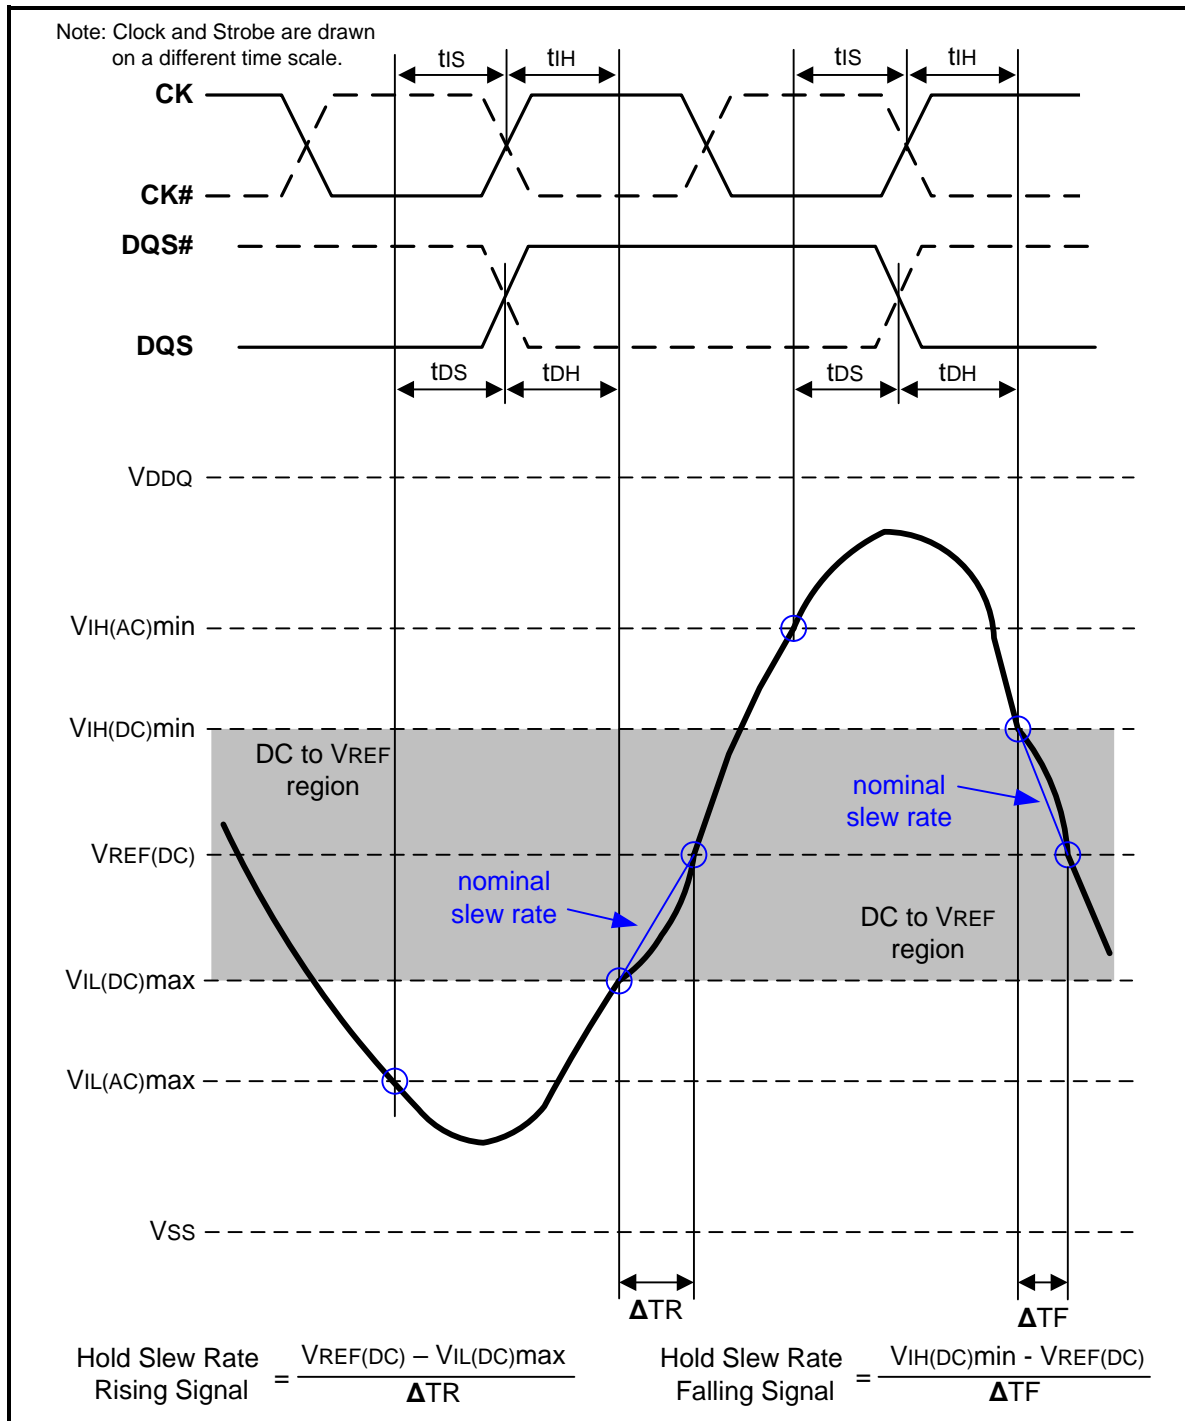
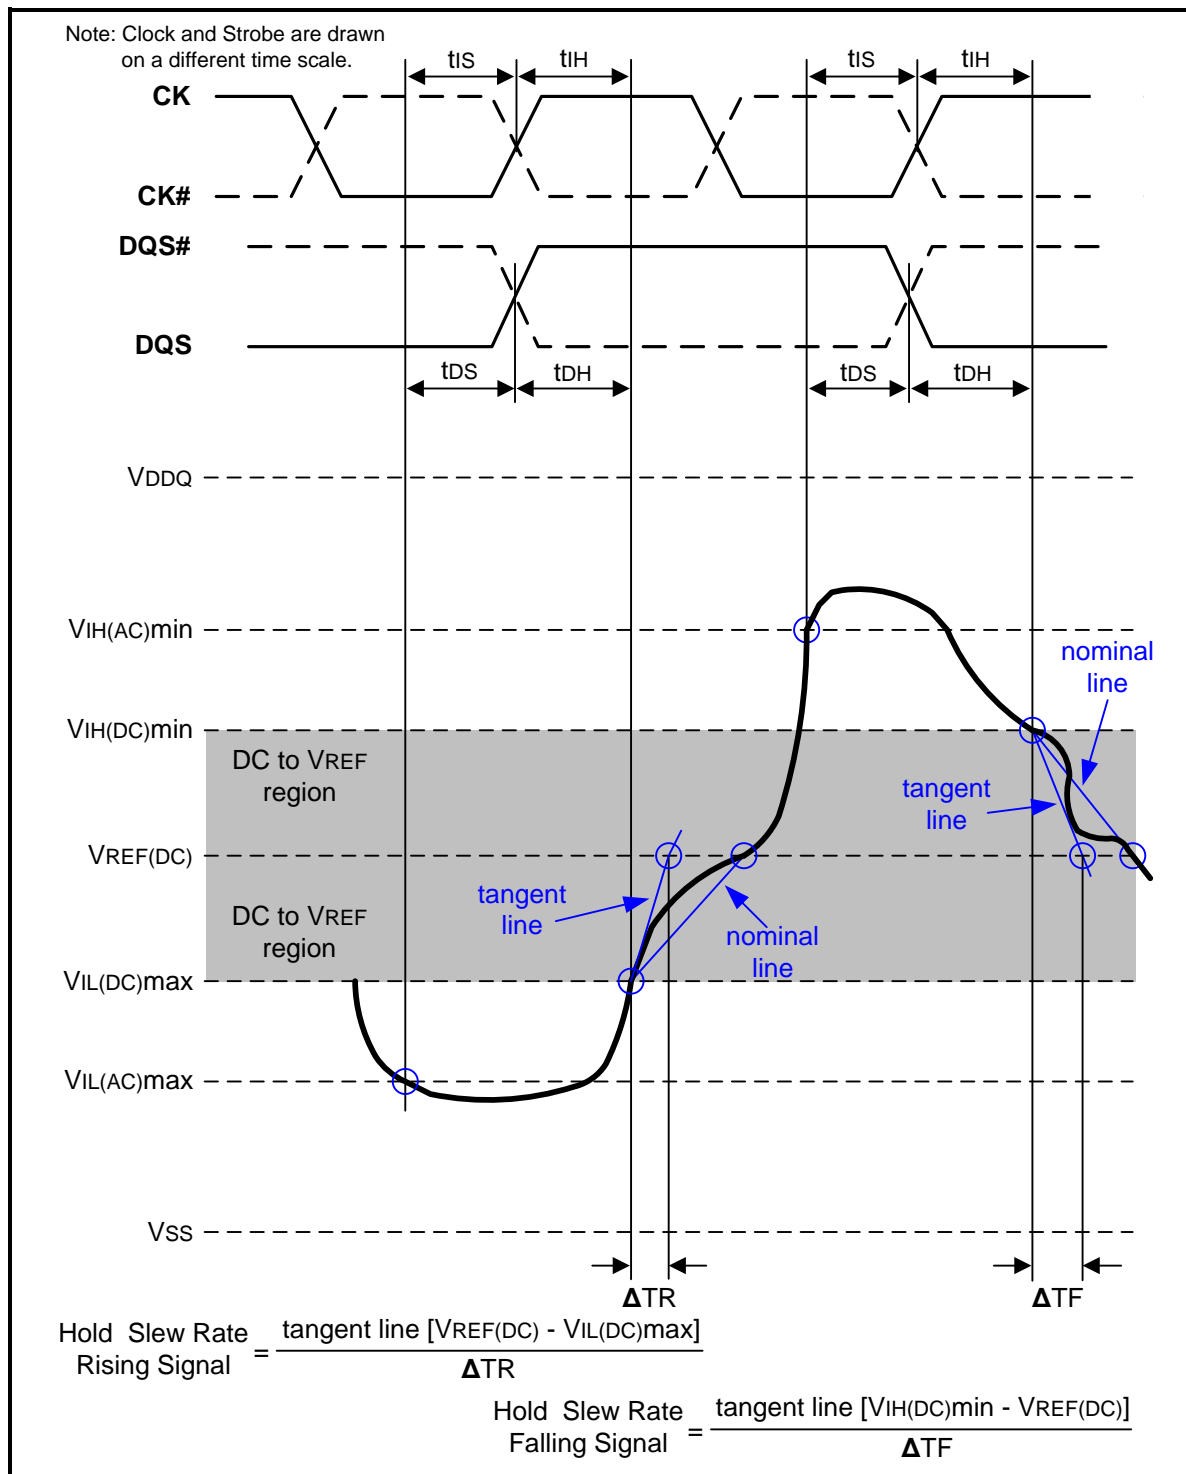

Figure 108 – Illustration of nominal slew rate for hold time t_{DH} (for DQ with respect to strobe) and t_{IH} (for ADD/CMD with respect to clock)
Figure 110 – Illustration of tangent line for hold time tDH (for DQ with respect to strobe) and tIH (for ADD/CMD with respect to clock)
Hold (tDH) nominal slew rate for a rising signal is defined as the slew rate between the last crossing of VIL(DC)max and the first crossing of VREF(DC). Hold (tDH) nominal slew rate for a falling signal is defined as the slew rate between the last crossing of VIH(DC)min and the first crossing of VREF(DC) (see Figure 108). If the actual signal is always later than the nominal slew rate line between shaded 'DC level to VREF(DC) region', use nominal slew rate for derating value. If the actual signal is earlier than the nominal slew rate line anywhere between shaded 'DC to VREF(DC) region', the slew rate of a tangent line to the actual signal from the DC level to VREF(DC) level is used for derating value (see Figure 110).